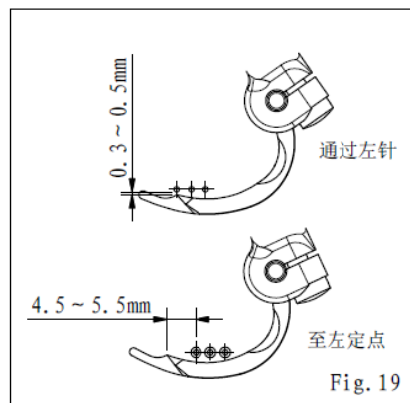

Fig. 19
2. 当上勾针由右往左边移时，上勾针之勾线尖端与左针之间隙为 0.3~0.5mm，当上勾针继续移至最左时，上勾针之勾线尖端与左针中心距离为 4.5~5.5mm。(图 19)
2. When the spreader moves from right to left, the gap between the left needle and the tip of the spreader is 0.3~0.5mm. when the spreader continues to move to the left most point, the distance between the tip of the spreader and the center of the left needle is 4.5~5.5mm. (Fig.19)